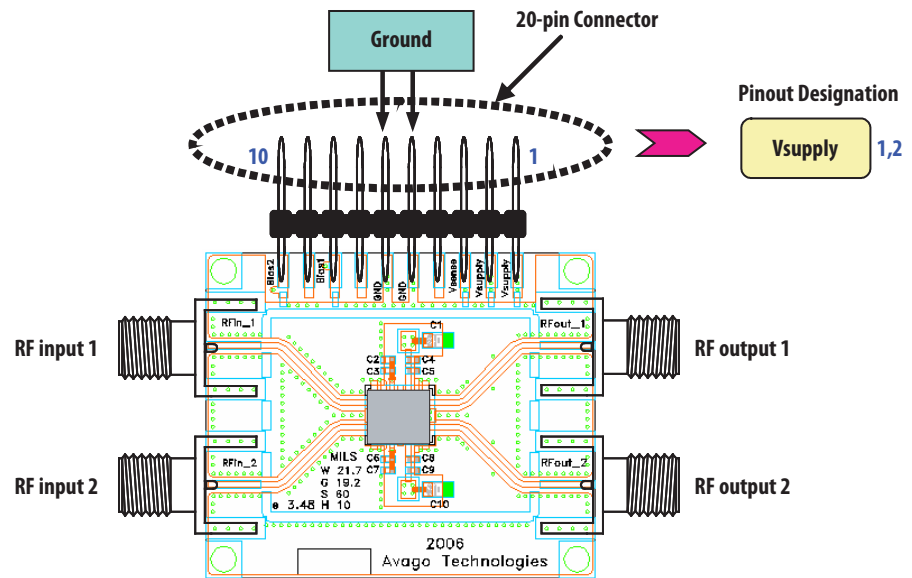

Figure 5. Demo Board Layout Diagram
$T_A = 25\text{ }^{\circ}\text{C}$, $V_{dd} = 5\text{V}$ @ 280mA , RF performance at 2.0 GHz , given for each of the 2 RF paths, measured on demo board (see Fig. 5) unless otherwise specified.
7. Measurements at 2GHz obtained using demo board described in Fig 5.